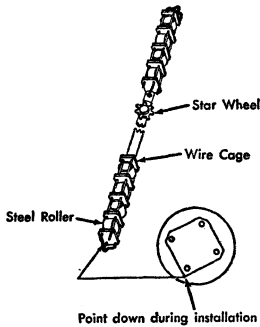

Figure 8. Carriage Truck Assembly
The carriage is mounted on ground carriage rails and travels on hollow steel rollers held in wire containers called trucks (Figure 8). The trucks are retained by star wheels which engage drilled holes in the carriage ways. When the end of carriage travel is reached past the margin stops, final stops on the carriage end plates strike the final stop plate on the bottom of the front rail.
2. As shown in Figure 8, hold the points of the front truck assembly plates down and the star wheel to the left. Then push the assembly into place until it is flush with the end of the rail.